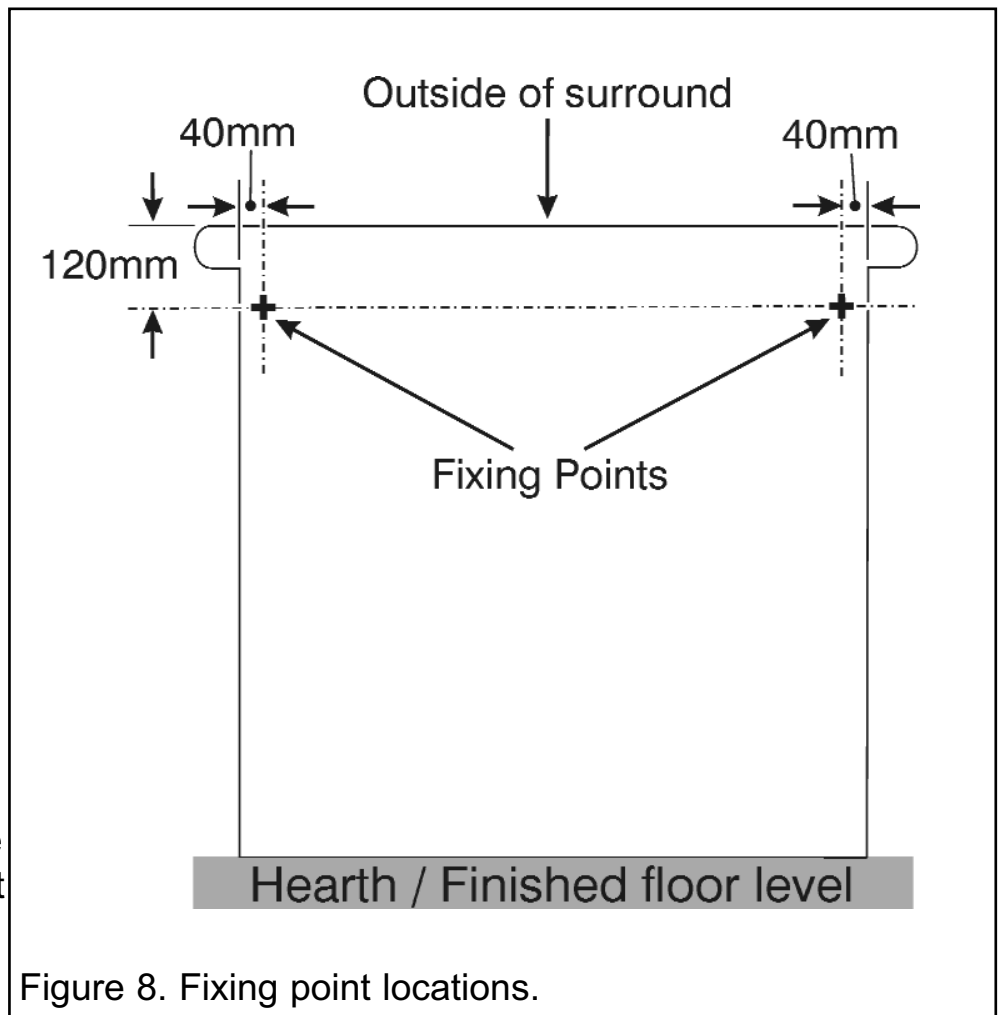

Figure 8. Fixing point locations.
- There are two wall fixing points shown in figure 8. Mark the positions of the fixing points on the wall. Drill suitable sized holes at the fixing points for the wall plugs supplied. Insert two wall plugs (J). Insert two screws (M) leaving approximately 3mm between the wall surface and the rear of the screw head. Lift the surround and locate the keyhole slots over both screw heads. The screws can be adjusted to obtain the best fit. This will require removal of the surround.